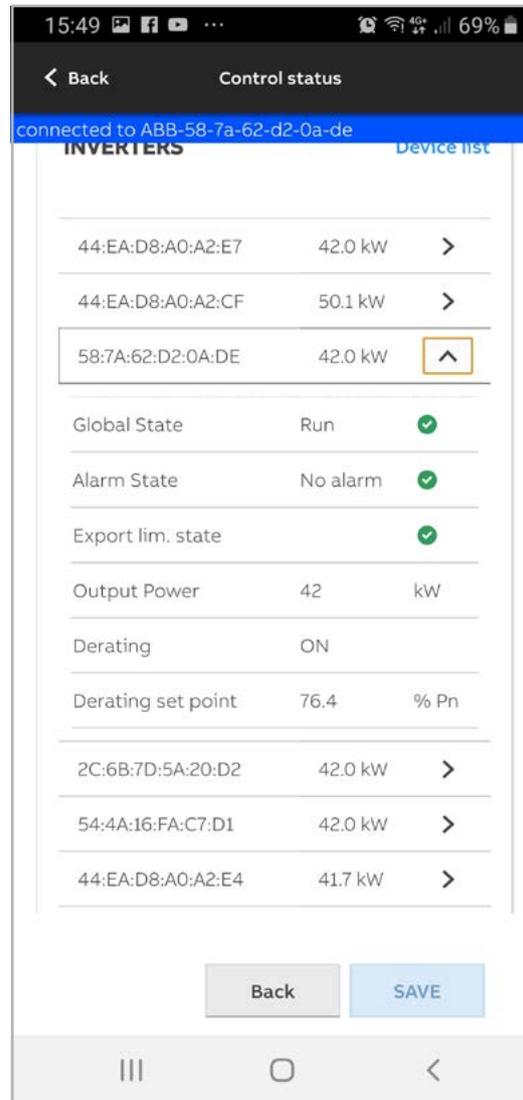

Figure 22 - Export monitoring: inverter status
- Figure 22 - Export monitoring: inverter status